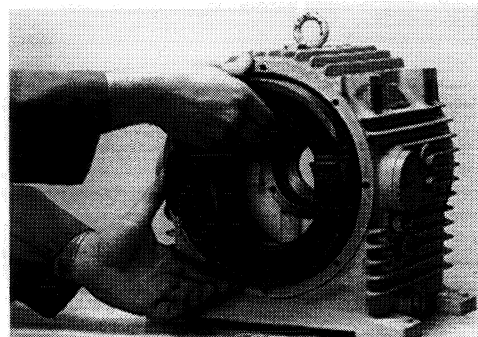

Fig. 23
Slide out the eccentric ring (6) and bearing carrier (Fig. 23).